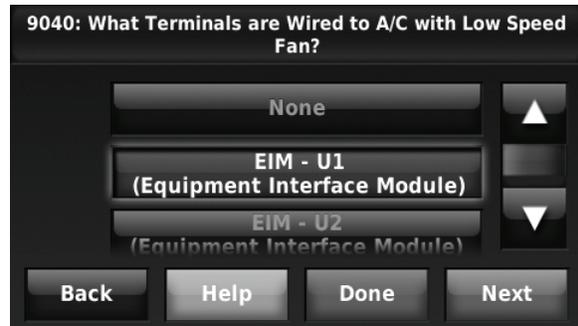

Fig. 223.
4. Select the terminals wired to the A/C with Low Speed Fan. See Fig. 223.